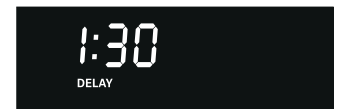
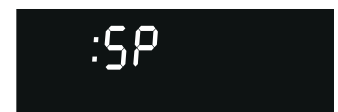

Figure 1
Figure 2
- To tell if your range is set for normal or silent operation press and hold  for 7 seconds. "DELAY" will appear and flash in the display (Fig. 1). If ":SP" appears (Fig. 2), the control will operate with normal sounds and beeps. If ":-" appears (Fig.3), the control is in the silent operation mode.
- Press  to switch between normal sound operation and silent operation mode. The display will show either ":SP" (Fig. 2) or ":-" (Fig. 3).